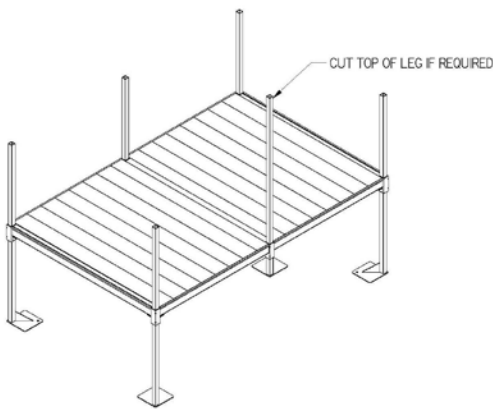

Fig. 2
- 1.4 If the leg is in a location that will be unguarded or on the ramp side of a platform, mark the leg at the top of the center pocket, lift the leg up, cut the top of the leg off approximately 1/8" below the mark and drop the leg back into place (Fig. 2 & 3).